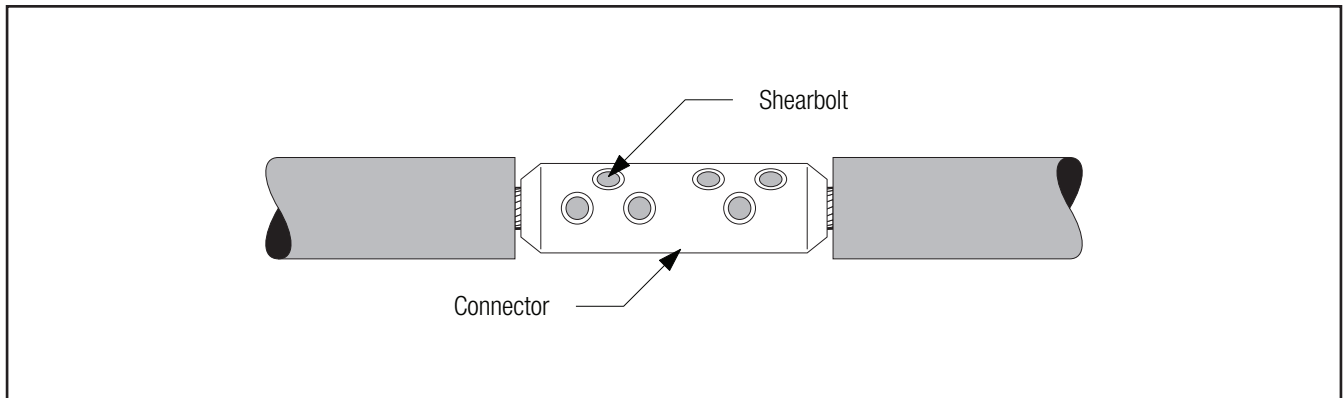

Figure 7
- 3.2 Install 3M Shearbolt Connector QCI 4/0-600 according to the instructions included with the connector (*Figure 7*).